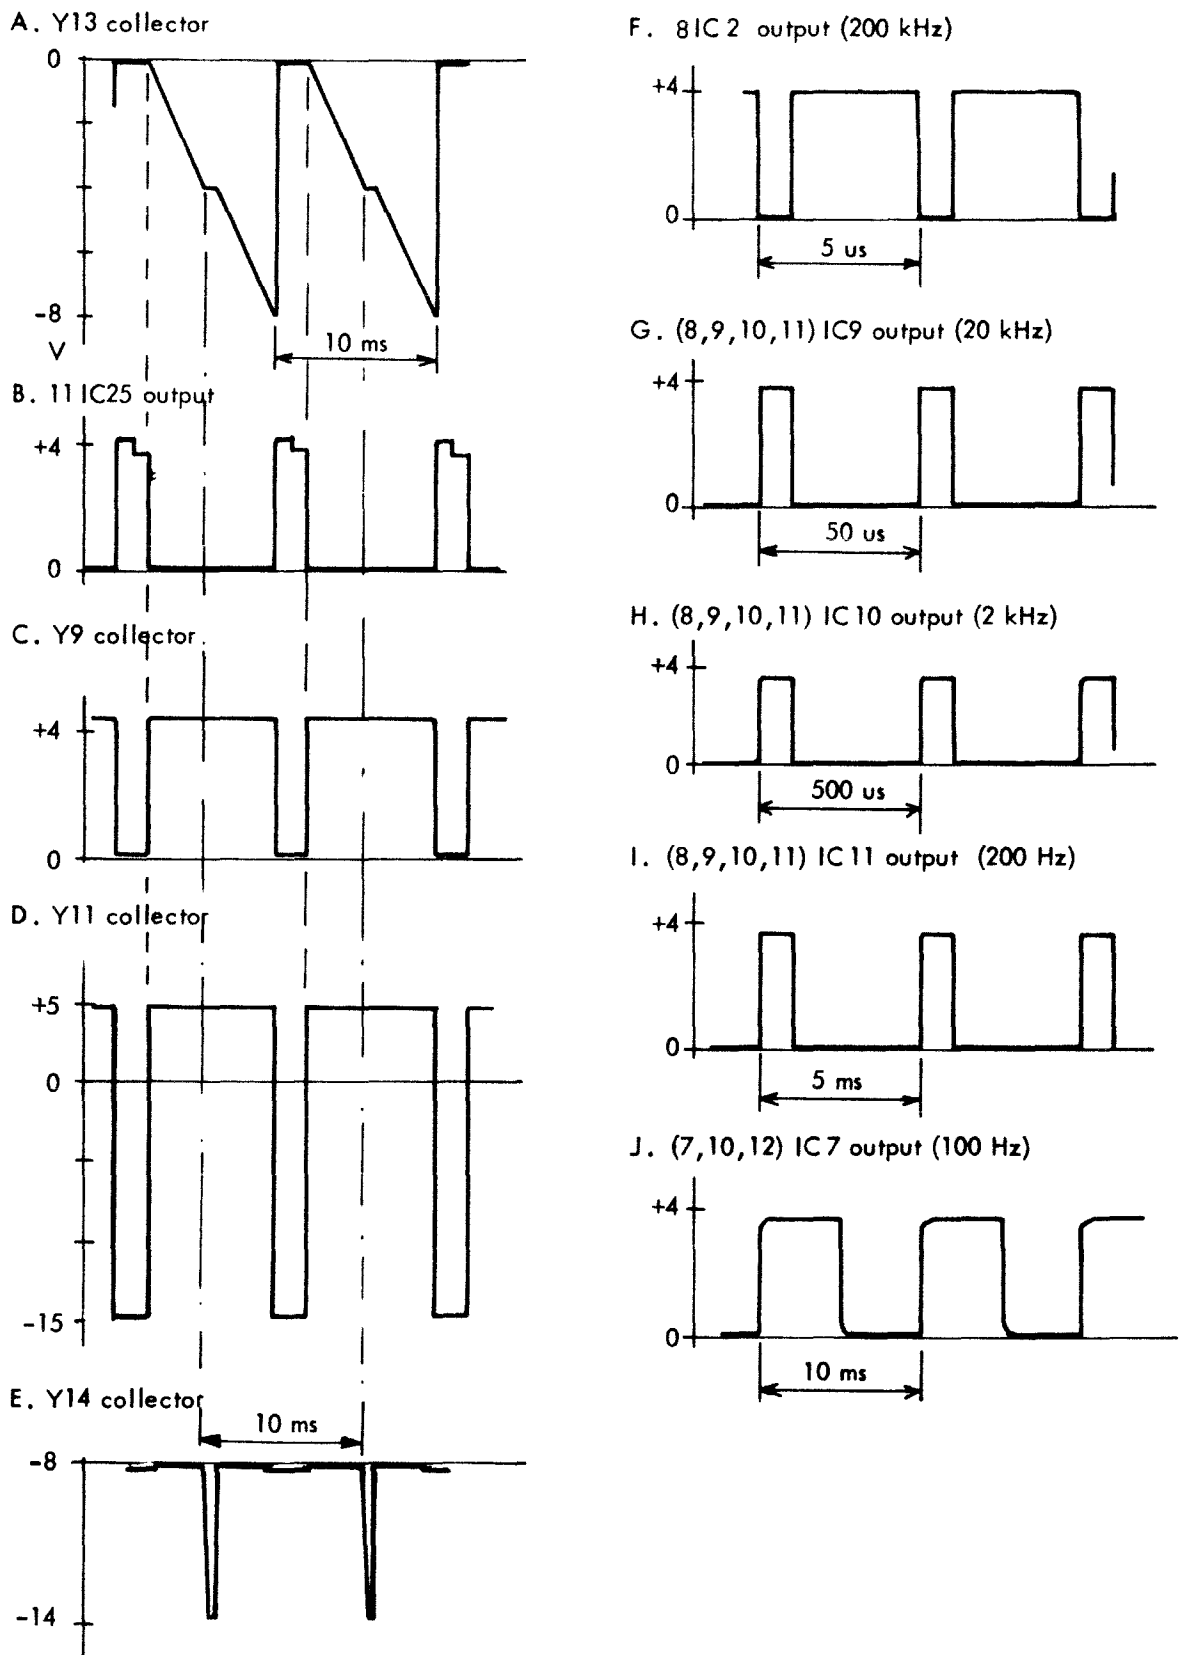

Figure 6.7 - SYNTHESIZER WAVEFORMS
The procedure below aims at locating basic faults inside the oscillator, for subsequent workshop repair. In order to obtain repetitive and characteristic waveforms for oscilloscope display, set all the dials on zero figures. The VCO output to the divider chain is then to be 2000.0 kHz, and 10-divisions are effective overall. Confer waveforms with those shown on figure 6.7.
c. Connect the oscilloscope probe to Y13 collector and analyze the sawtooth wave ("A" on figure 6.7):
g. For a quick check of where the signal is lost, set all dials on "0" and study output signals E through J in figure 6.7.